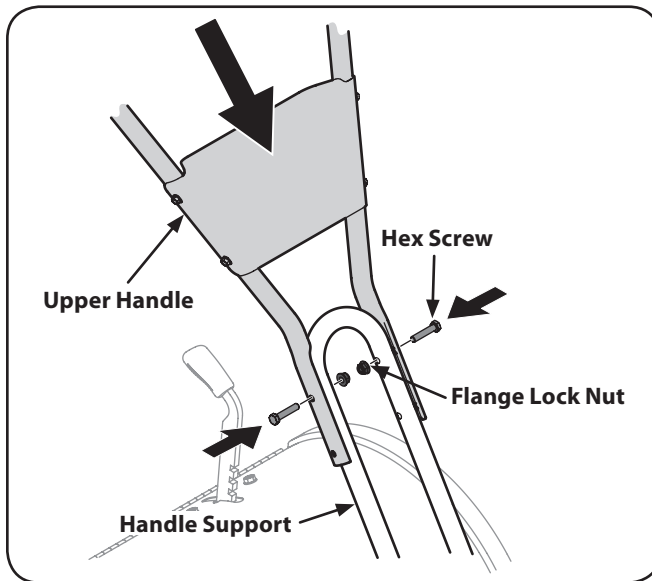

Figure 3-2
- Using two hex screws and two flange lock nuts, loosely attach the handlebar support using the upper holes. Tighten the two screws securely. See Fig. 3-2.